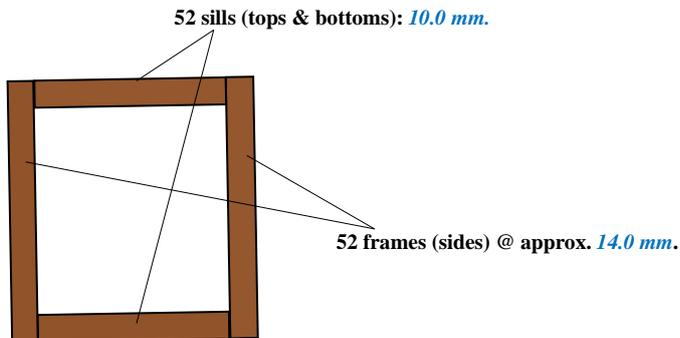

Figure 50: Opening Strips to be Cut
- edges sanded to +/- **14.0 mm**. .. still to be done in Fig. 50.